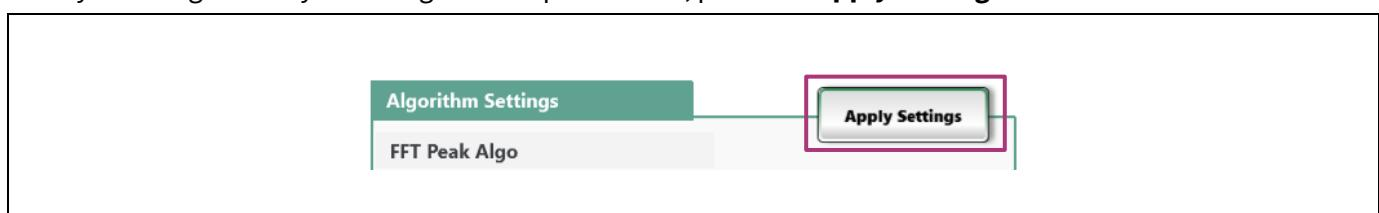

**Figure 25** Data display on Micrium-based GUI
- The GUI interface in Figure 25 should appear.